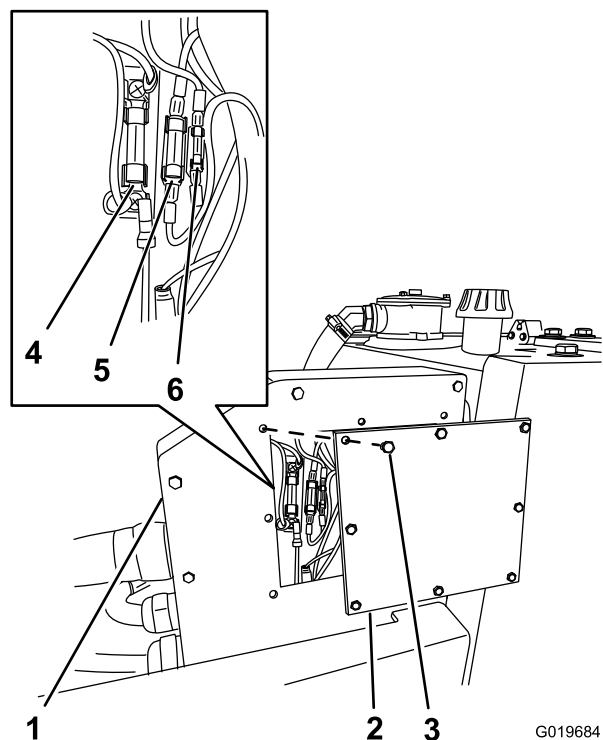

Figure 72
The electrical system is protected by 3 fuses. The electrical system typically requires no maintenance; however, if a fuse blows, check the component/circuit for a malfunction or a short. Figure 72 shows the fuse positions in the junction box.
5. Remove the 8 bolts that secure the auxiliary panel to the junction box. Remove the auxiliary panel and gasket (Figure 72).
6. Check the fuses for damage or an open circuit (blown); refer to Figure 72.
7. Install the auxiliary panel to the junction box using the 8 bolts removed in step 5 (Figure 72).